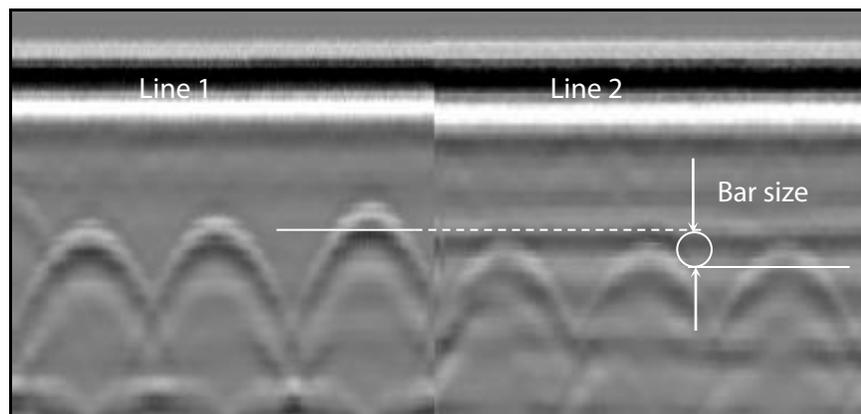

Figure 18: Rebar size measurement using two intersecting survey lines.
**Note:** In the Line 2 (right half of Figure 18) the top bar is visible as a straight horizontal reflection on top of the hyperbolas. It should NOT be used for size measurement, because any misalignment of the antenna relative to that bar will cause errors